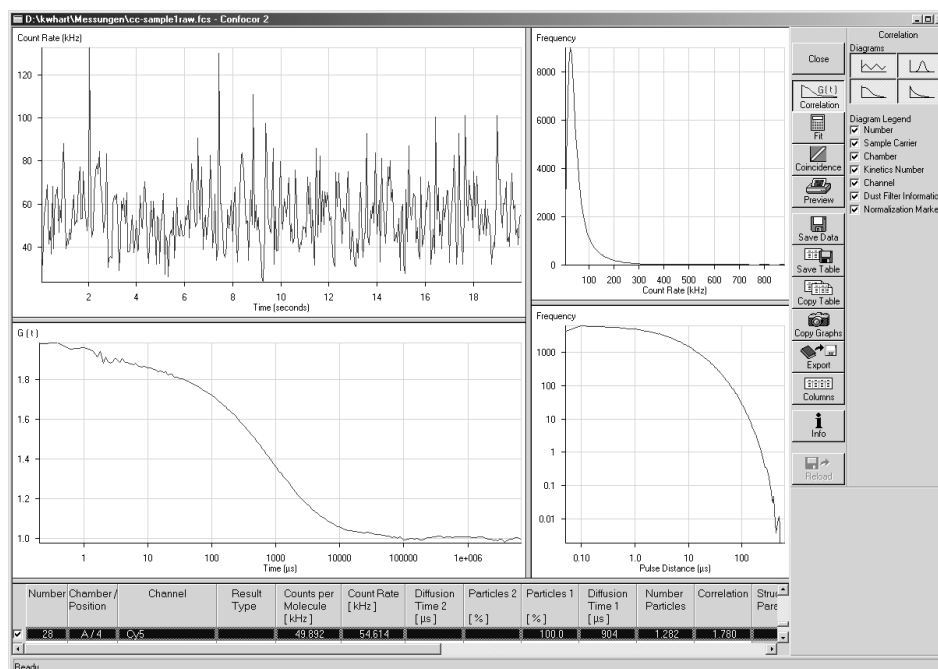

Fig. 3-96 Data evaluation window
The data evaluation window (Fig. 3-96) of the ConfoCor 2 software corresponds to the basic structure of other Microsoft® WINDOWS applications.
- The **Data Evaluation** window will appear (Fig. 3-96).
- The **Correlation** display toolbar will appear to the right of the **Data Evaluation** window (Fig. 3-96).